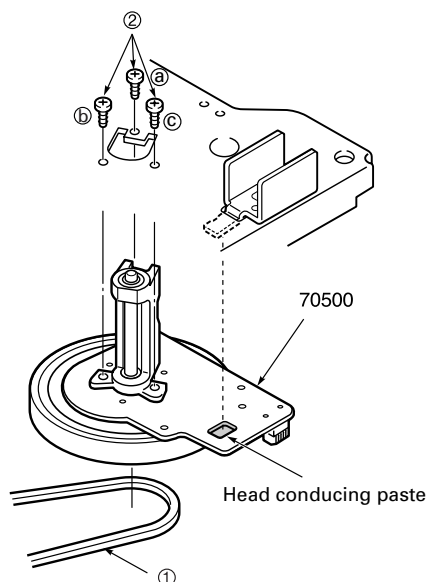

Fig. 8.41
- Remove the drive belt ① (20800) (Fig. 8.41).
- Undo the 3 screws ② and remove the capstan motor.
- Carefully tighten the 3 fixing screws ② in the order a, b, c with a torque of 3.25 to 3.75kg/cm. Clean the capstan axle.